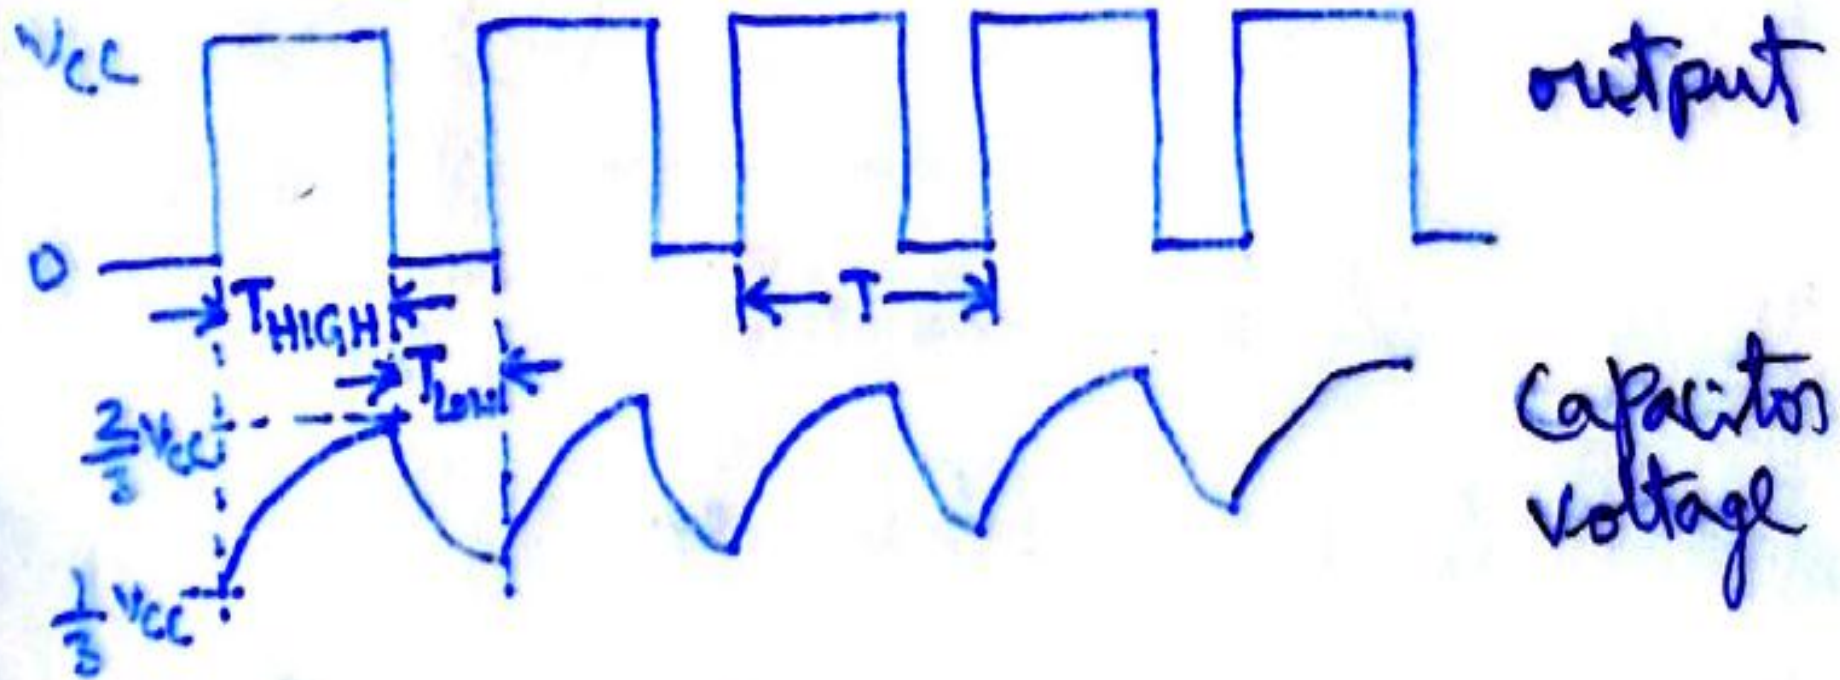

Fig 8.17 Timing Sequence of Astable multivibrator.
- Figure 8.17 shows the timing sequence and capacitor voltage waveform.